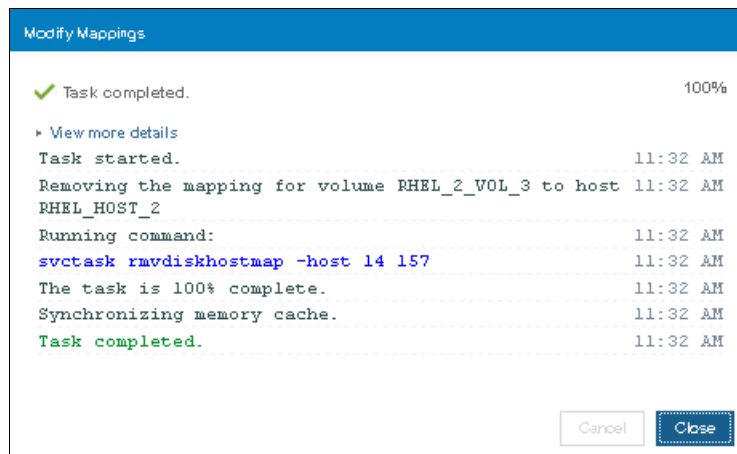

Figure 8-15 Volume unmap task completion
- Click **Remove Volumes** and a task completion confirmation window will open as shown in Figure 8-15.